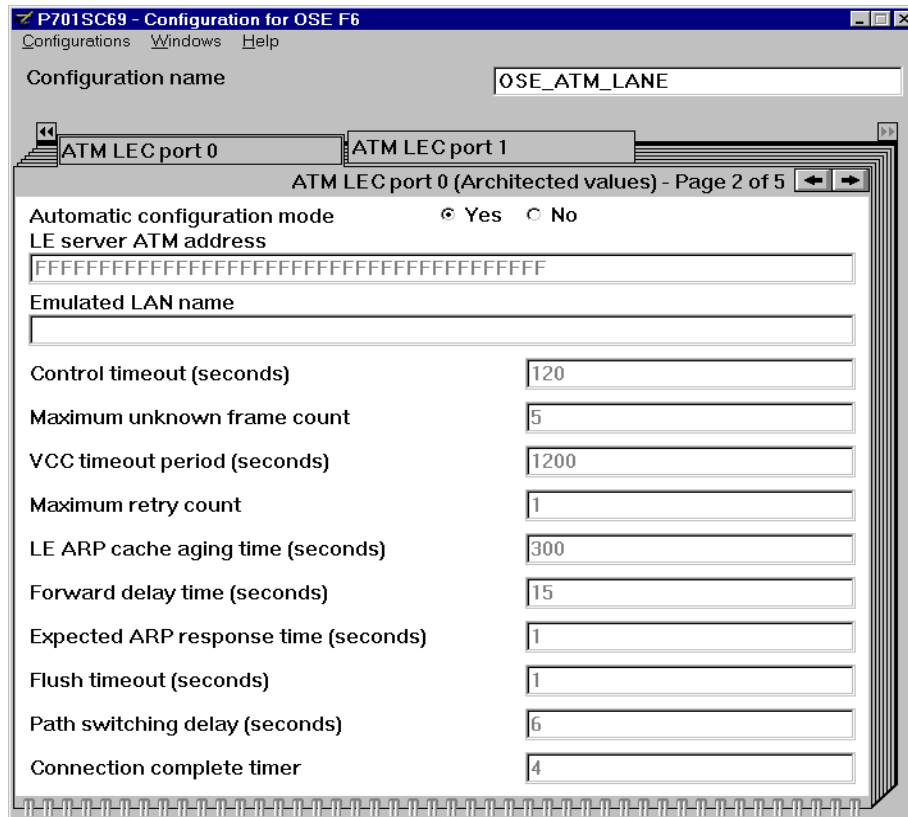

Figure 9-6 ATM LEC port 0 architected values - page 2 of 5
- After you have filled in all desired entries, click the right arrow in the upper right corner of the notebook to change to page 2, as shown in Figure 9-6.